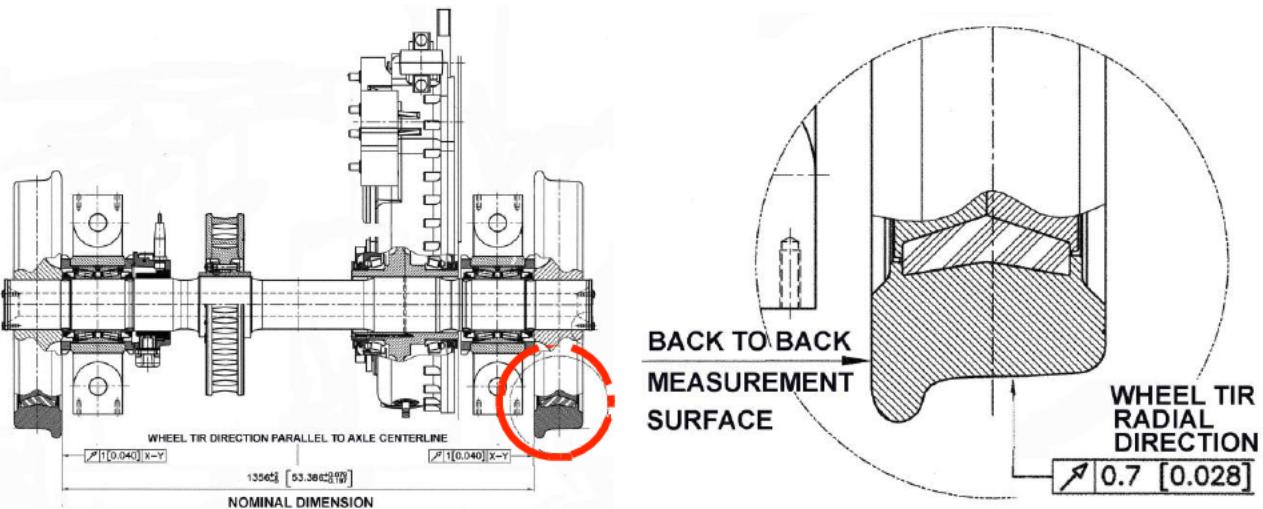

Figure 16 MOTOR TRUCK - WHEEL BACK TO BACK AND RUNOUT TOLERANCES
3. Check the Wheel Back to Back and Runout tolerance values according to the next Table 1 and Figure 16